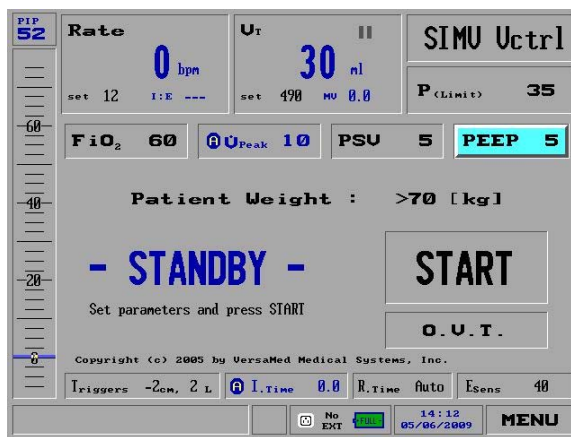

Figure 56: PEEP Selected on the Main Screen
1. Select **PEEP** from the second row on the **Main** screen (Figure 56):